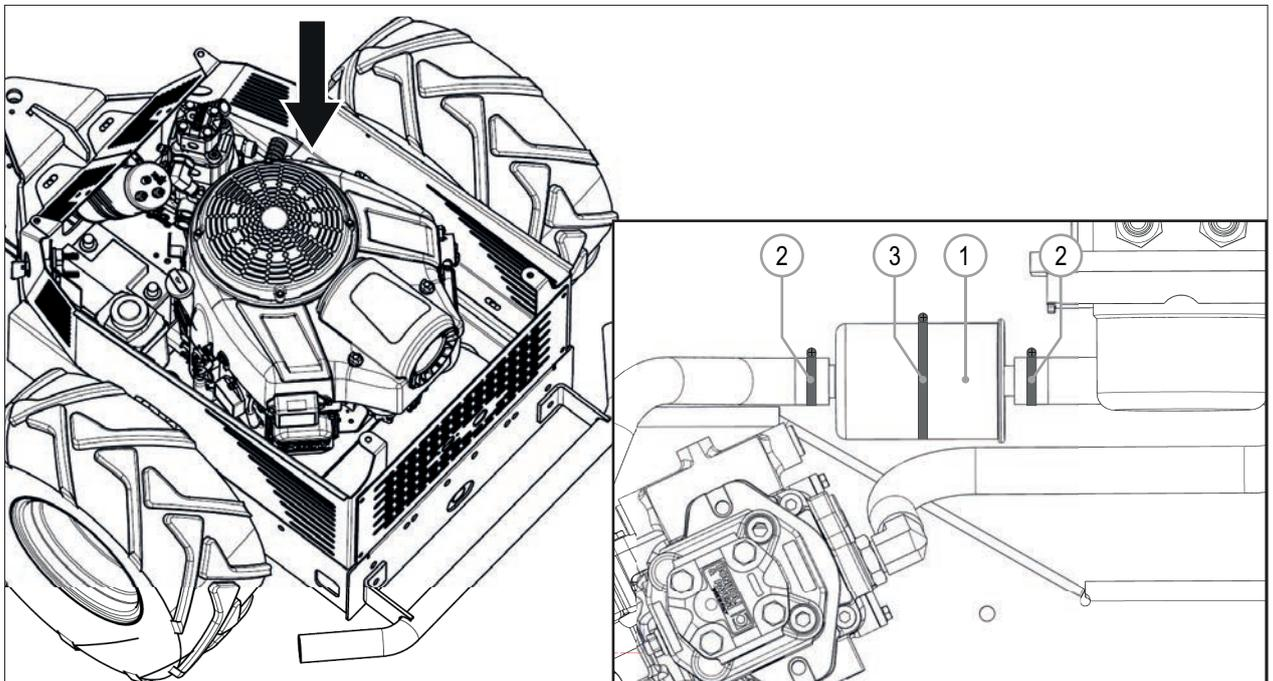

FIG. 36
- 4) Remove the clamp (FIG. 36 - Ref. 3) that fix the suction filter (FIG. 36 - Ref. 1).
- 5) Loosen the clamps (FIG. 36 - Ref. 2) of the hydraulic hoses.
- 6) Replace the suction filter (FIG. 36 - Ref. 1) with a new original part.
- 7) Insert the hydraulic hoses and fix them with the clamps (FIG. 36 - Ref. 2).